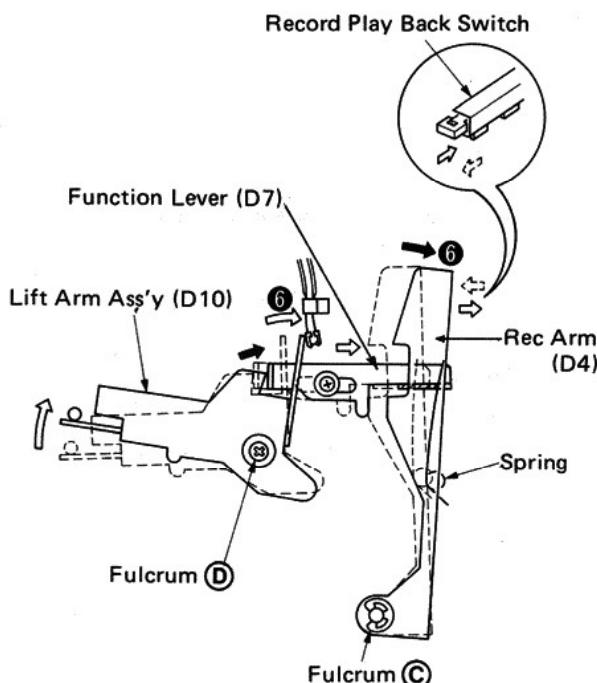

Fig. 31
- 4 Therefore, when the function lever slides to the right and the spring section of the REC arm (D4) is pushed by it, the REC arm (D4) begins to move in direction (6) around the fulcrum (C).
- 5 The movement of the REC arm is used to switch over the RECORD/PLAYBACK switch into the REC mode. (Fig. 31)